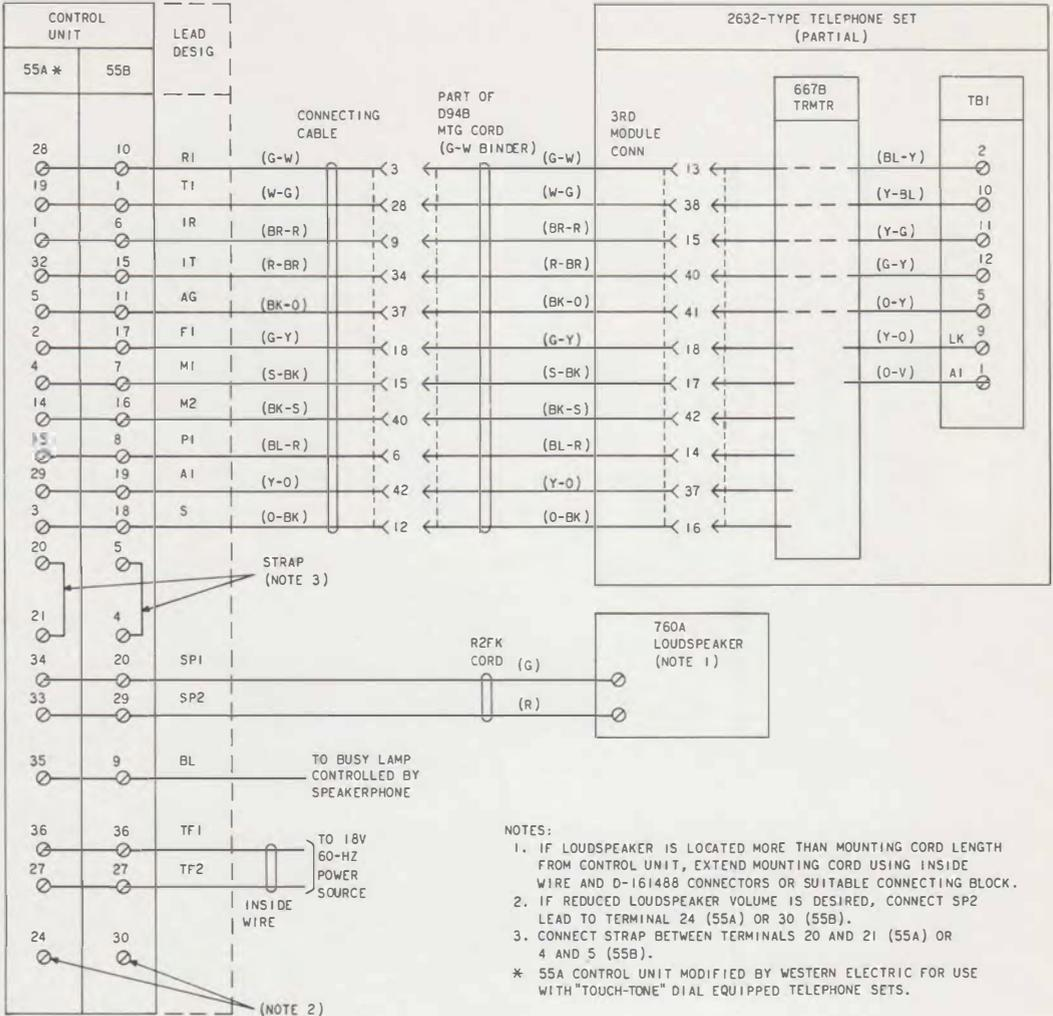

Fig. 1—2632-Type Telephone Set, Connection For 3-Type Speakerphone
- Remove Tables A and B; information is included in Fig. 1
- (c) Connect spade-tipped leads of transmitter as shown in Fig. 1.
1.03 General wiring information in 264 and 110-volt systems. Tables A and B information is included in Fig. 1.